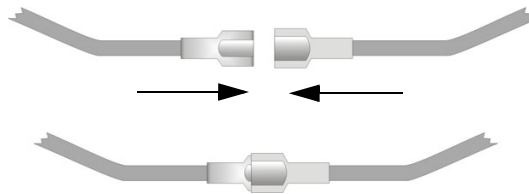

Figure 4.5 Splicing Control Panel Battery Cable to RBB Battery Cable Extenders
2. Connect the main control panel battery cables to the battery cable extenders as shown in Figure 4.5.